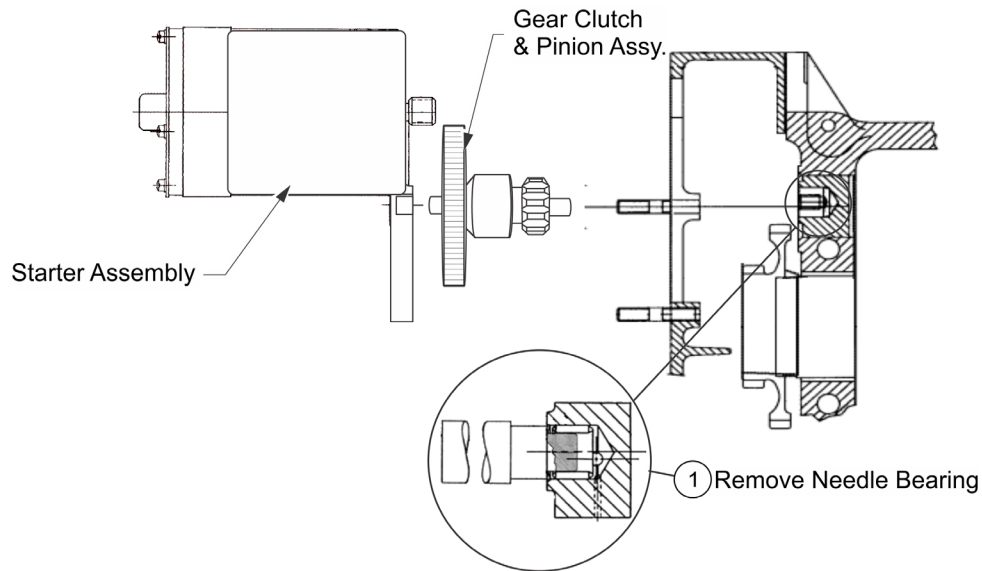

Figure 2. Remove Needle Bearing
1. Remove existing needle bearing using a 0.50 inch expandable bushing/bearing puller and slide hammer (see Figure 2 and Table 3).